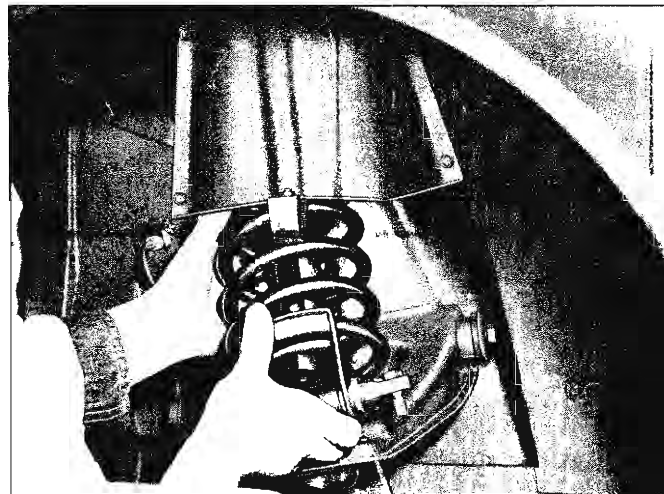

Fig. 25—Removing Spring and Seat Assembly—Chevy II
6. Remove lower spring seat retaining nuts, lift spring and seat assembly from control arm and guide it down and out through fender skirt (fig. 25).